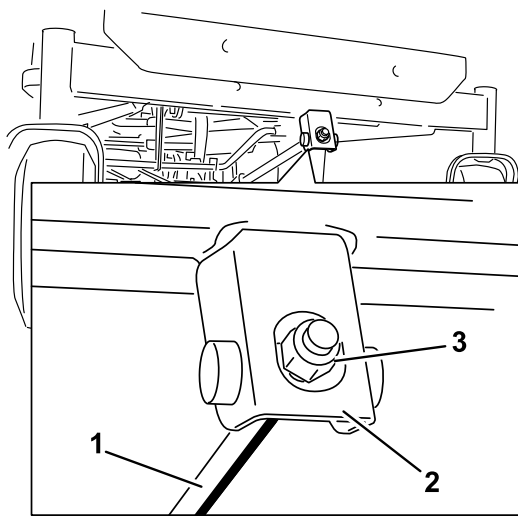

Figure 55
- To adjust the front-to-rear blade slope, rotate the adjustment nut in the front of the mower (Figure 55).